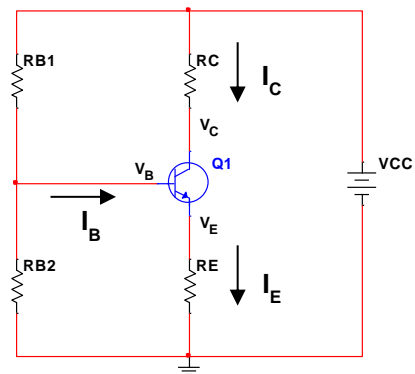

Figure 1.2 – Common-Emitter Amplifier (DC Only)
- b. From a DC perspective, the amplifier looks like the circuit in **Figure 1.2**. This is because the impedance of  $C_{C1}$ ,  $C_{C2}$ , and  $C_{B1}$  at DC ( $\approx 0\text{Hz}$ ) is nearly infinite. So, the capacitors look like open circuits at DC. This is why  $R_{E1}$  disappears from the circuit.
- c. **Figure 1.2** looks just like what we did in Lab 6, except we are now solving the problem in reverse.